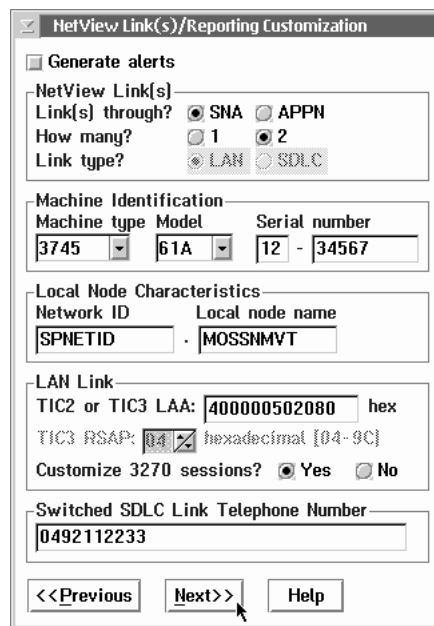

Figure 11-2. NetView Link/Reporting Customization
Local Node Network ID (Figure 11-2 on page 11-3)	Partner network ID (Step 19 in each configuration procedure)
**Step 6.** Record the values in the **Network ID** field (see Figure 11-2 and refer to Table 11-1 on page 11-2).